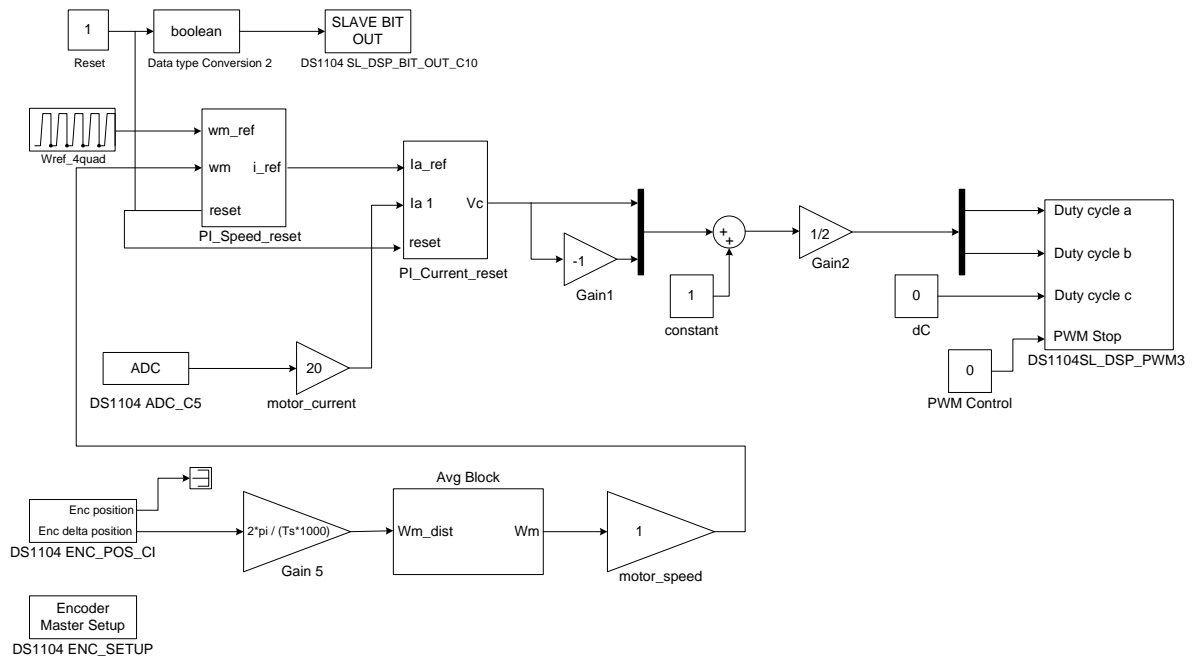
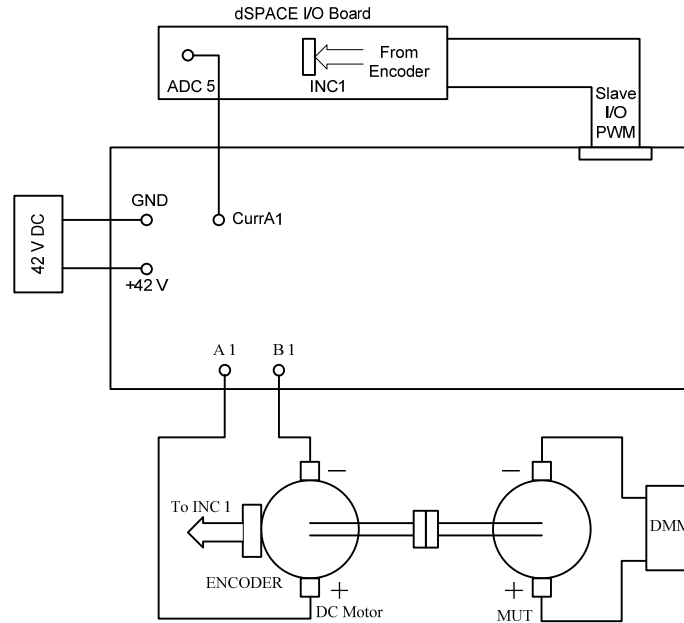

Figure 5.7: Simulink model for real-time implementation of DC motor control
Figure 5.8: Connections on the board
All the necessary components to make the model in Fig 5.7 are provided in the file ‘components.mdl’. If you would like to build it the instructions as in a to f are given below:
- Fig 5.7 is then the simulation block for DC-motor control. Make the connections on the board as shown in Fig. 5.8. The block wref_4quad gives a periodic step change in reference speed from 100 rad/sec to 300 rad/sec.